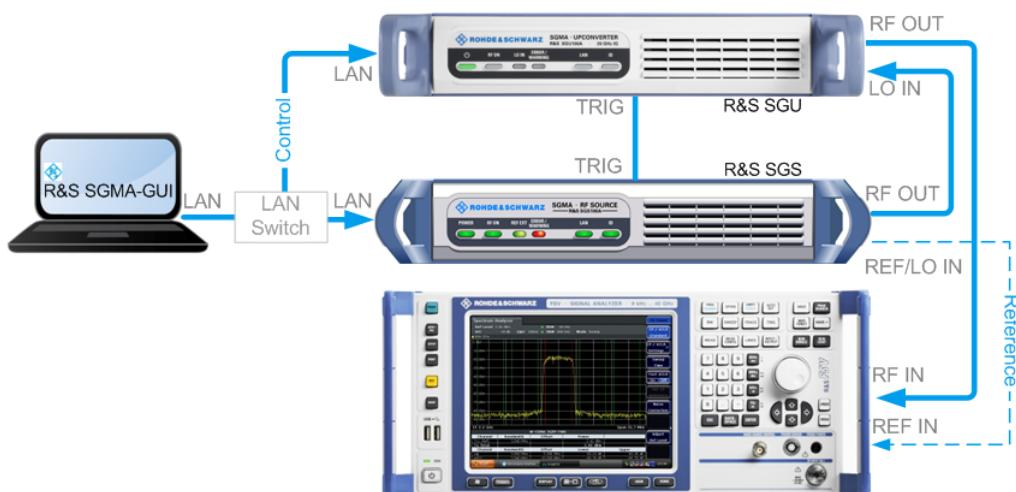

Figure 5-8: Example of a test setup for upconverting a CW signal generated by the R&S SGS
1. Connect the test equipment as shown on Figure 5-8: